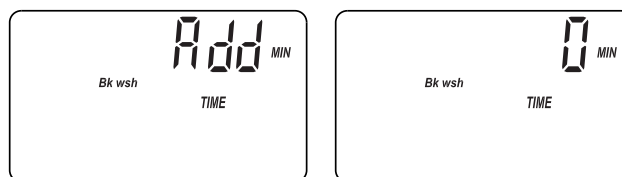

FIG. 33
- Press SELECT again to display the alternating screens shown in Figure 33.